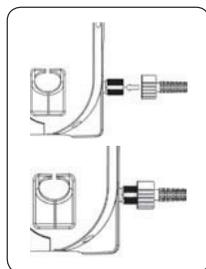

FIGURE 7
2. Only in 1400W, 1450W and 1700W models, screw the fitting of the hose to the outlet fitting of the pressure washer (figures 7 and 8): Hand tighten the fitting – do not use a wrench to avoid damaging the fitting.